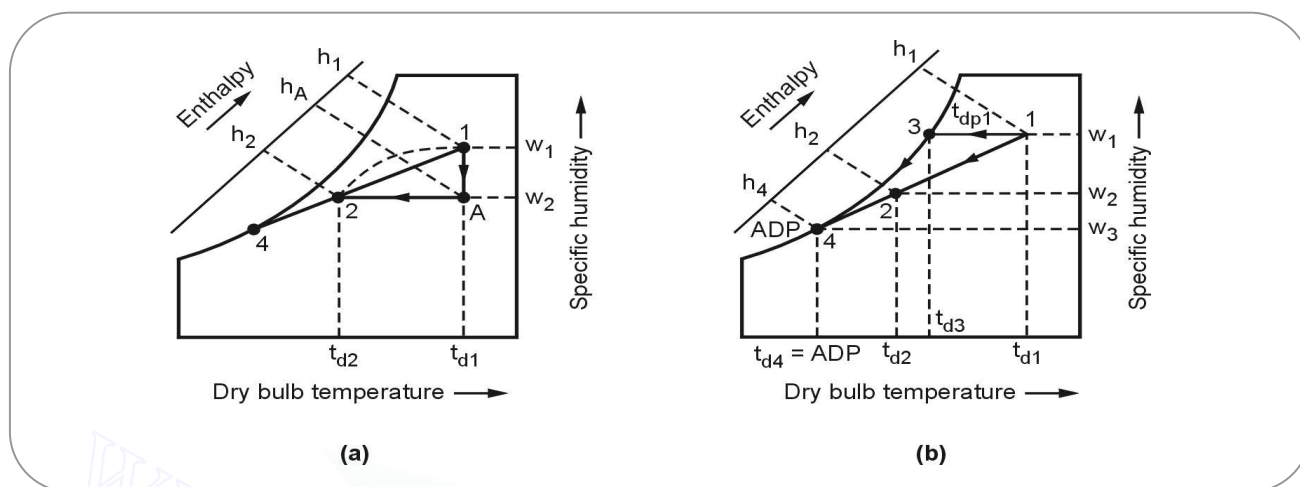

Fig. 5.73 : Cooling and dehumidification
- The cooling and dehumidification process is represented by process 1-2 on psychrometric chart as shown in Fig. 5.73 (a).
- The total heat absorbed by the coil is sum of SH and LH and is given by enthalpy difference ( $h_1 - h_2$ ) as shown in Fig. 5.73 (a). The proportion of sensible heat to the total heat is expressed in sensible heat factor.
- The SHF of process gives the slope of line representing the process on a psychrometric chart as shown in Fig. 5.73 (a) by line 1-ADP.
Thus, from Fig. 5.73 (a),